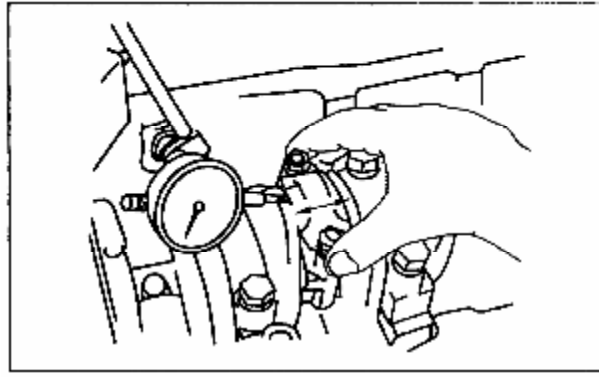

Figure 3-21 Check End Clearance of Connecting Rod Big End
3.2.1 Check axial clearance between big end of connecting rod and end surface of crank-connecting rod journal with a feeler or a dial indicator. Nominal clearance: 0.160~0.312mm; maximum axial clearance: 0.35mm. If the clearance exceeds the maximum value, replace the connecting rod (see Figure 3-21).